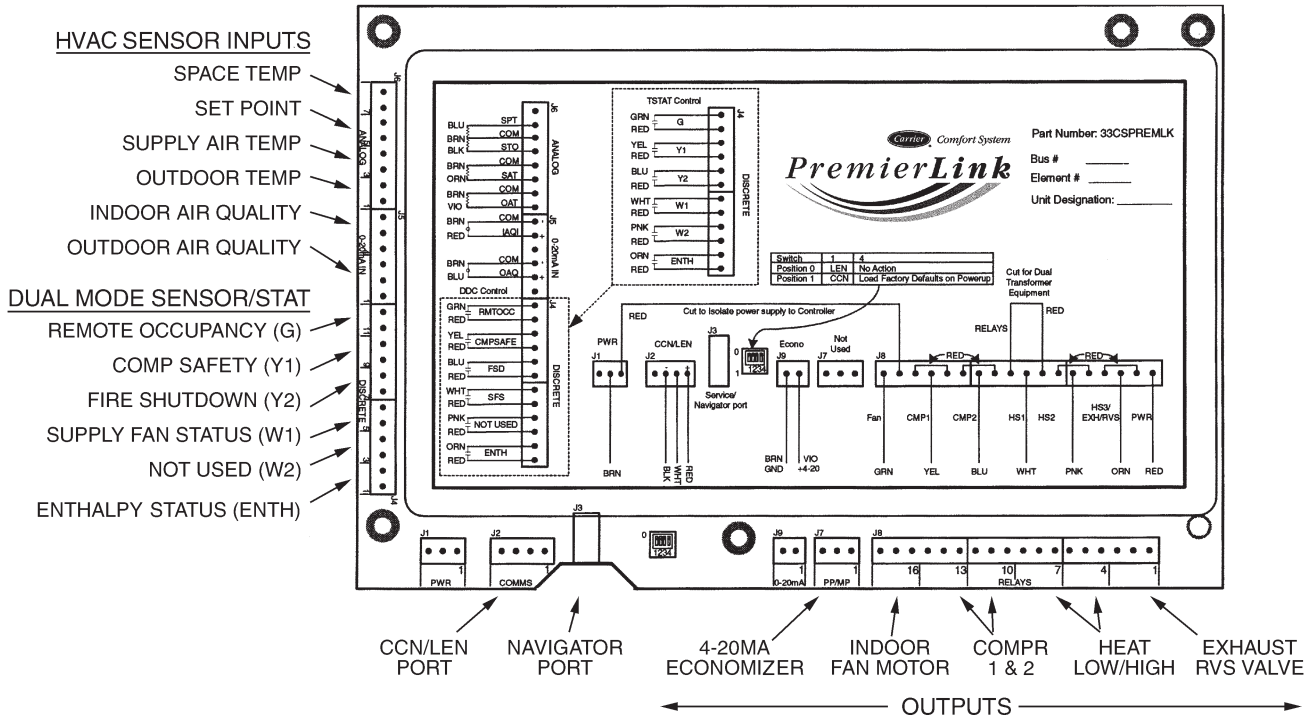

Fig. 37 - PremierLink Controller
The PremierLink controller (see Fig. 37) is compatible with Carrier Comfort Network® (CCN) devices. This control is designed to allow users the access and ability to change factory-defined settings, thus expanding the function of the standard unit control board. CCN service access tools include System Pilot (TM), Touch Pilot (TM) and Service Tool. (Standard tier display tools Navigator™ and Scrolling Marquee are not suitable for use with latest PremierLink controller (Version 2.x).)